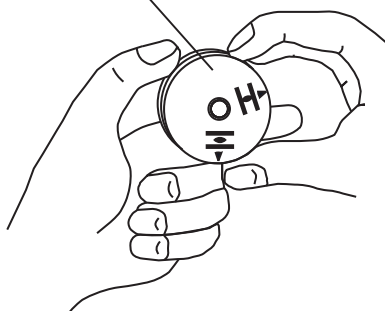

Figure Q-2
- Turn lower indicator disc (figure Q1) until symbol  CLOSED is in alignment with the mark on the cover (figure Q-2).